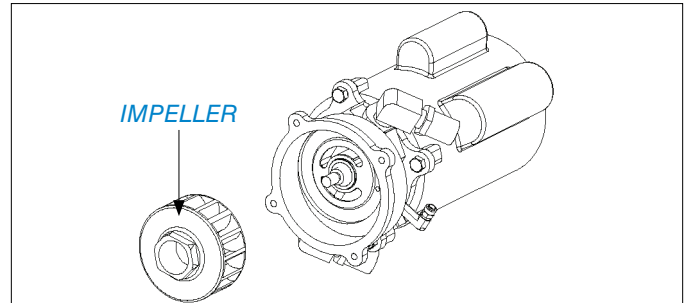

FIGURE 11. REMOVE IMPELLER
10. Remove the impeller by unscrewing counter-clockwise. Then inspect the impeller for any pitting or scoring (*FIG 11*).